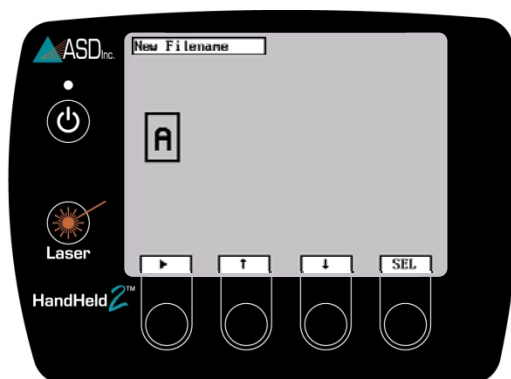

Figure 2-29: Set first character of filename
- Step 4 A filename may be up to eight characters long and it may not contain spaces. Press the up or down arrow buttons to change the characters (Figure 2-29).